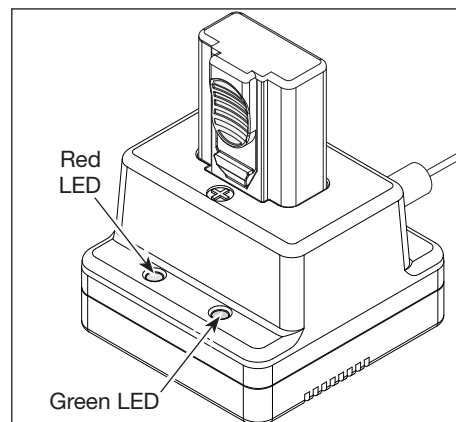

Figure 3
4. Charging will begin as soon as the charger and adaptor are connected (see Figure 3). The green LED light on the charger will turn on continuous to indicate charging has begun. If the LED light does not turn on, remove battery and reinsert battery back into charger base. The battery is fully charged when the green LED on the charger base is flashing. Once the battery is fully charged, remove the battery from charger. DO NOT leave it on continuous charge to avoid possible damage to the battery.